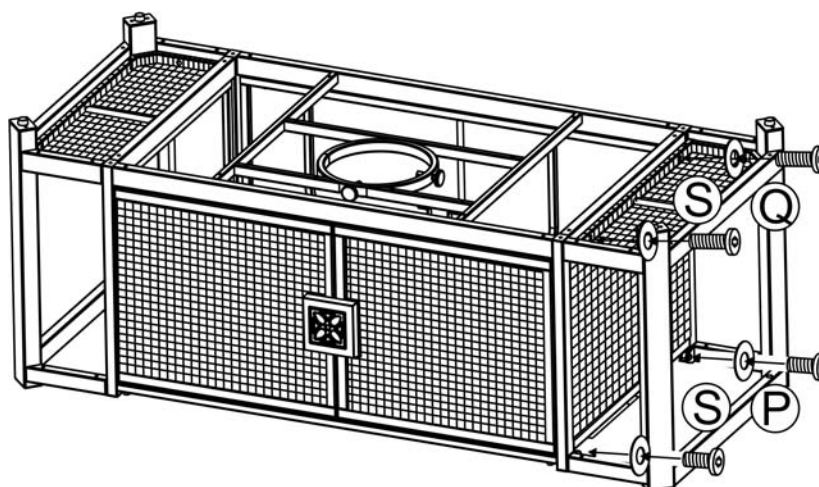

Figure 3
2. Attach a table leg to the firepit base by using two 1/4"x18 mm bolts, two 1/4"x30 mm bolts and four Ø6.5x1.0 mm washers as shown in Figure 3. Guide the bolts through the holes in the table leg, into the pre-drilled holes in the firepit base. Hand tighten only 2-3 turns. Repeat for the other leg.